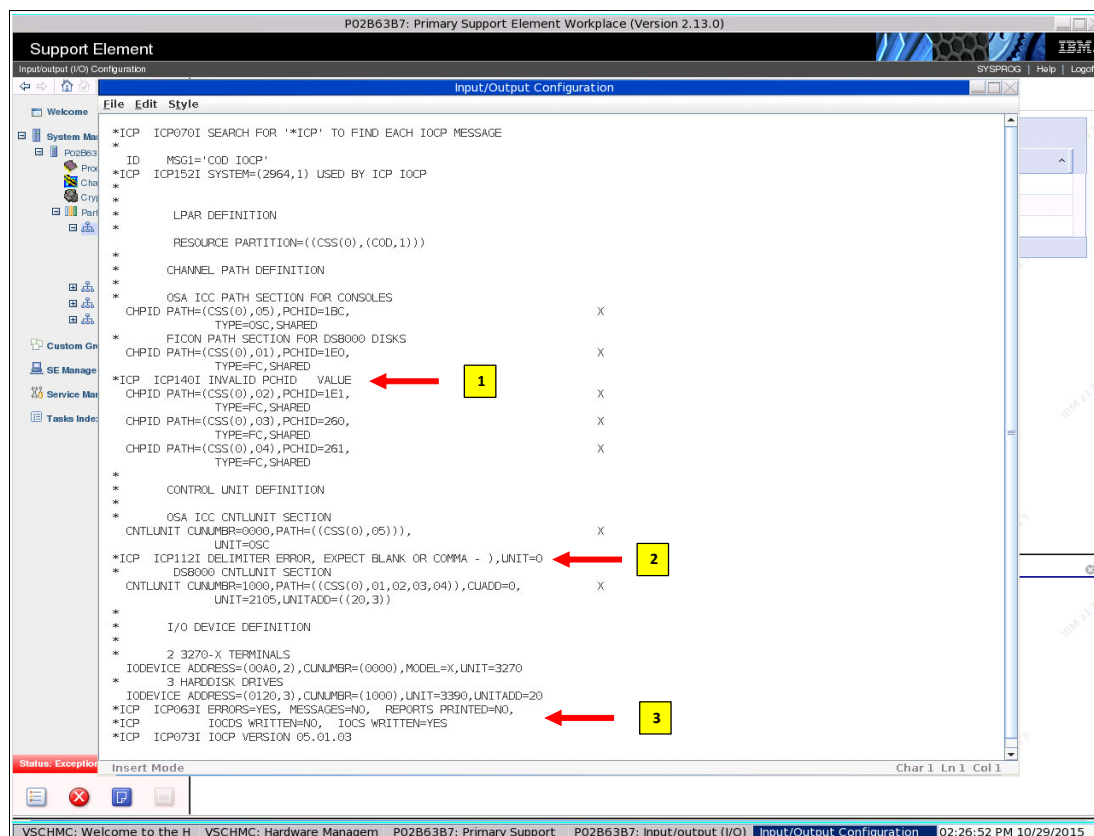

Figure 5-26 Source file and error messages
The source file is displayed, as shown in Figure 5-26. We search for “*ICP” to find each IOCP message. In our example, we produced the following deliberate errors:
- An invalid PCHID number. Acceptable values are hexadecimal numbers (number 1 in Figure 5-26).
- Unbalanced parentheses for CNTLUNIT statement (number 2 in Figure 5-26).
- These errors provide more information about the build process (number 3 in Figure 5-26).